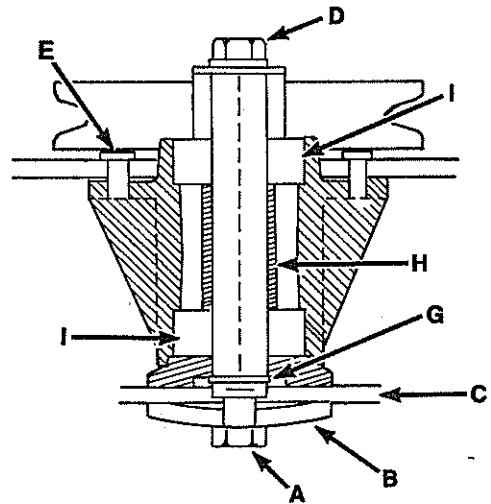

Figure 6-12B
14055-01 AND 14056-01. Figure 6-12B**
2. Remove center bolt (A, Figure 6-12B) and Spring washer (B).
3. Remove blade (C).
4. Remove 7/16-18 x 1 hex nut, lock washer and washer. Remove top sheave (D). This allows access to 4 mounting screws (E).